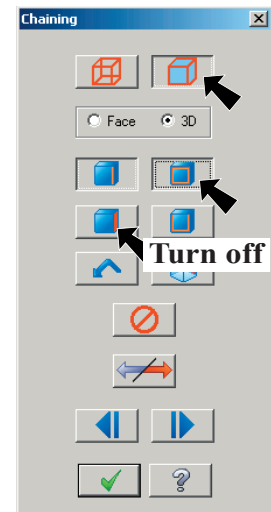

Fig. 23
Step 7. Click the **Solids** button  in the Chaining dialog box, **Fig. 23**.
Step 8. **Turn off** Face button  and keep **Loop** button  on (depressed) in the Chaining dialog box, **Fig. 23**.